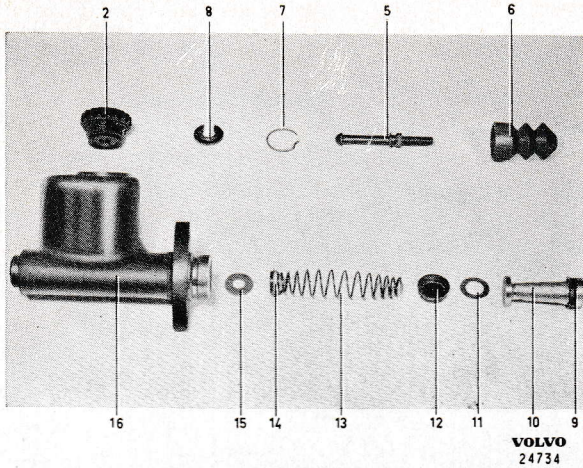
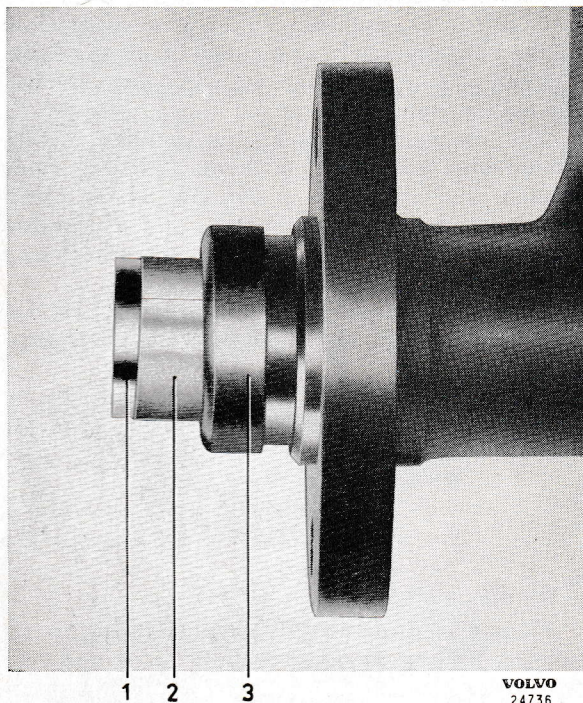

Fig. 50. Master cylinder, late production.
Fig. 51. Fitting the plunger.
2. Bend back the rubber cover (6) and remove the locking ring (7), washer (8) and push rod (5). Shake all the parts out of the cylinder, see Fig. 50.
1. Fit the washer (15, Fig. 50), in the bottom of the cylinder.
2. Place the packing (12) on the spring guide. Dip the packing in brake fluid and fit it together with the spring and valve. Place the washer (11) into the cylinder.
3. Pull the packing (9) onto the plunger and turn it as shown in the figure. Dip the plunger in brake fluid and fit it. Take care to see that the packing (9) is not damaged. It is best to use a piece of brass foil formed into a ring to act as a guide for the packing, see Fig. 51. Compress the spring and fit the push rod (5), washer (8) and locking ring (7).